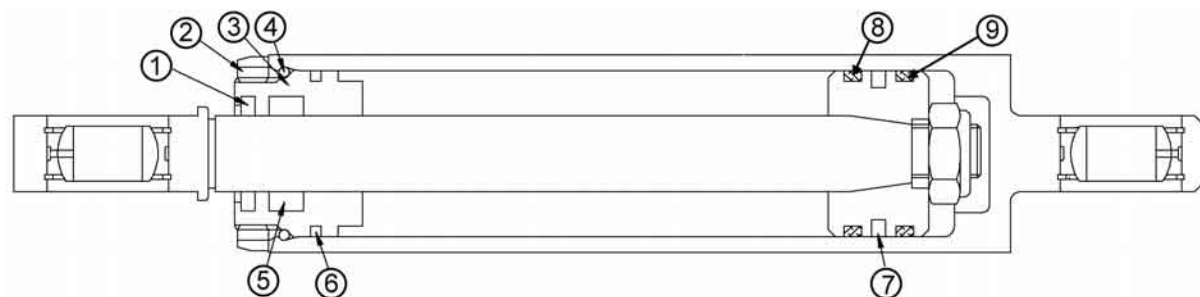

Fig. 6
Fig. 6 shows the assembly drawing of the joint cylinder.
If it is necessary to replace the inner seal of the cylinder and of the associated scraper (part 7-8 and 9) of Fig. 6 you must proceed to:
- remove, with the aid of two tweezers, the toroidal ring (part 4) of (fig. 6) using the opening on the cylinder made for this purpose;
- remove, with the aid of a wrench, the ring nut (part 2) of (fig. 6).